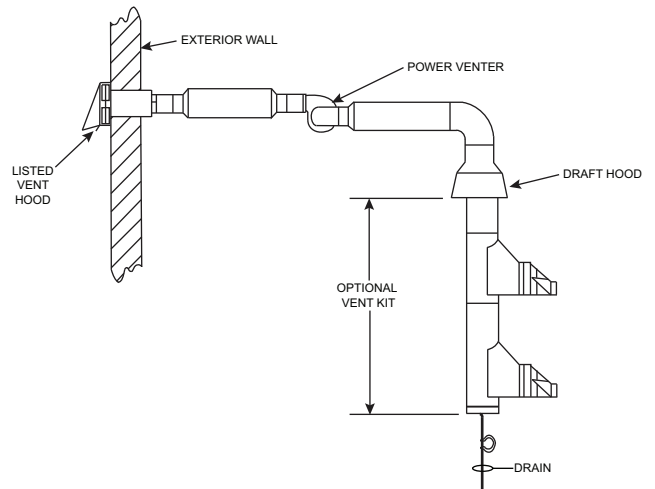

Fig. 150 — Indoor Horizontal Vent System
- See Fig. 150 for indoor horizontal (powered) vent system.